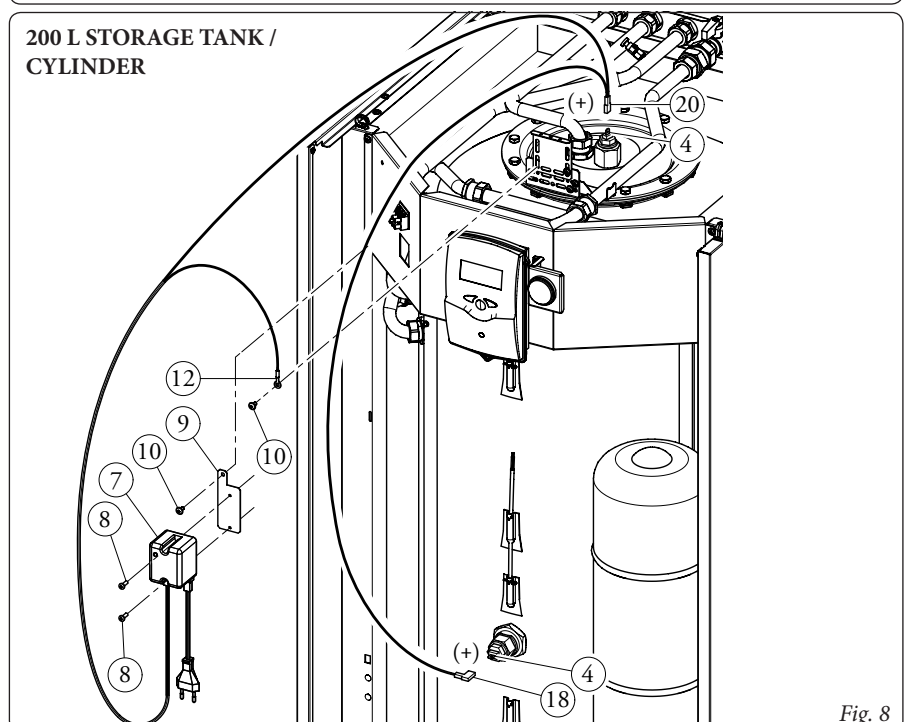

Fig. 8
- Assemble the control unit (7) with the screws (8) on the fixing plate (9) (Fig. 8).
- Assemble the plate (9) on the storage tank / cylinder using the screw (10).
- Make the earthing connection with black cable (12) on the storage tank / cylinder using the screw (10).
- Connect the red cable connectors (20 and 18) to the fastons on the anodes (4). Intermediate faston red cable (20) on the storage tank / cylinder cover, terminal faston red cable (18) on the storage tank / cylinder jacket.
N.B.: the connector (18) can be replaced with the flag connector supplied with the relative protection in order to im-